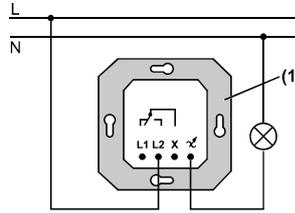

Figure 2: Connection diagram
(1) According to the connection diagram (figure 2).